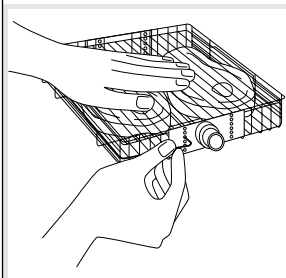

FIGURE 8
8. Use one hand to hold lid firmly against food located within the basket, use other hand to fasten pins in positioning holes located on both sides of basket. Be sure that lid holds the food firmly in place. **Note there are various holes to choose from to hold food secure. (Figure 8)*